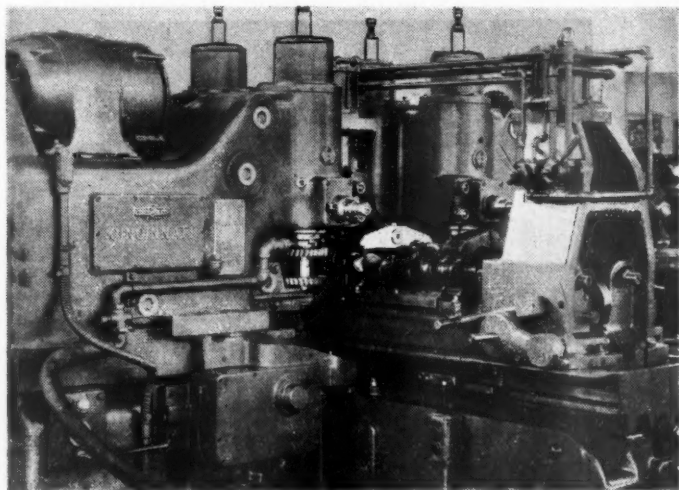
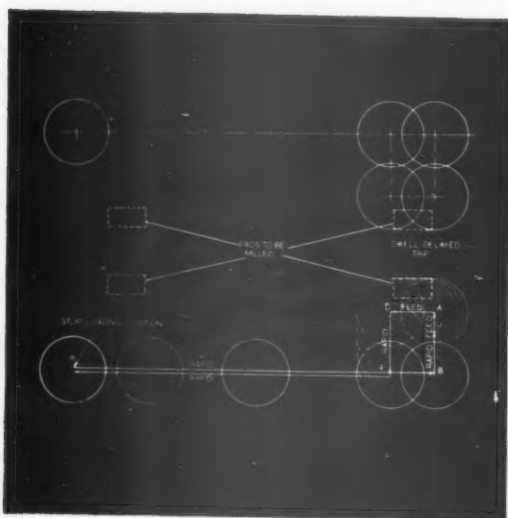
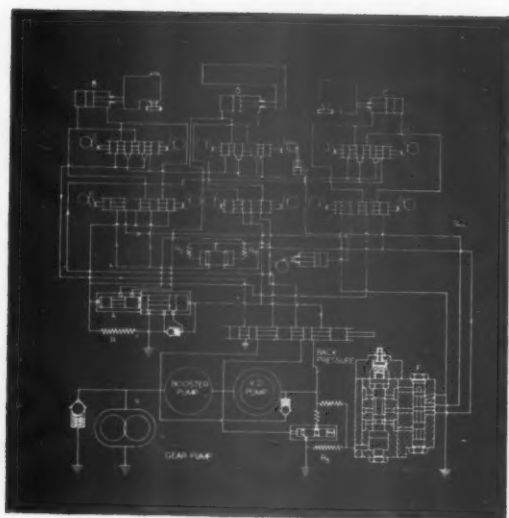

FIG. 14
FIG. 15
FIG. 16
Fig. 14 shows a special duplex milling machine arranged, with four vertical spindles mounted on rams and carrying four sets of cutters for milling locating pads on two sets of automobile crankshafts at one time. Schematically the complete path of one of the cutters is illustrated in Fig. 15. Fig. 16 shows the hydraulic circuit for this machine. The circuit can be identified as a complicated modification of the locked circuit, in that the feed rate is determined by the displacement of the variable delivery (VD) pump whose intake connects to the back pressure line and which discharges into the forward pressure line. Pressure leakage is made up by the booster pump which discharges into the forward pressure line. The differential relief valve relieves the forward pressure when the sum of the forward and back pressures exceed the spring setting. At A resistance R betrays a sequential valve, in this case called an unloading valve. Its function is to maintain forward pressure in the main cylinder so that it does not move during the "in-feed" cycle. As the return oil from the two cylinders B and C ceases to flow through resistance R, the valve moves to the left, restoring the normal circuit to cylinder D. The balancing valve at E will also be obvious.